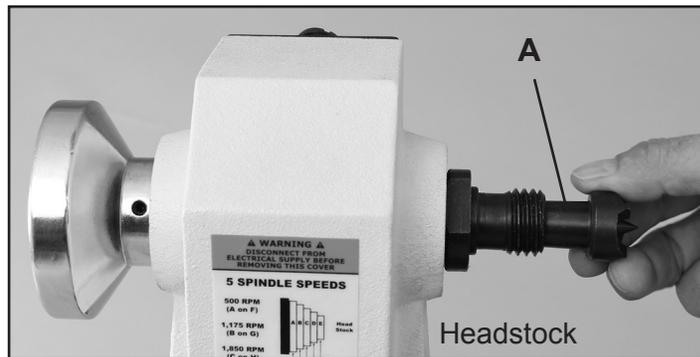

FIG. 5
Insert the spur center into the headstock spindle. The spur center (A) has a No. 2 Morse Taper shank, that matches the taper on the inside of the headstock spindle for a secure, friction fit. FIG. 5.